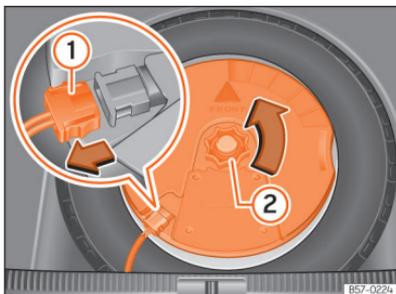

Fig. 192 In the boot: remove the subwoofer.
- Disconnect the subwoofer's speaker cable >>> Fig. 192 ①.
- Turn the securing wheel anti-clockwise >>> Fig. 192 ②.